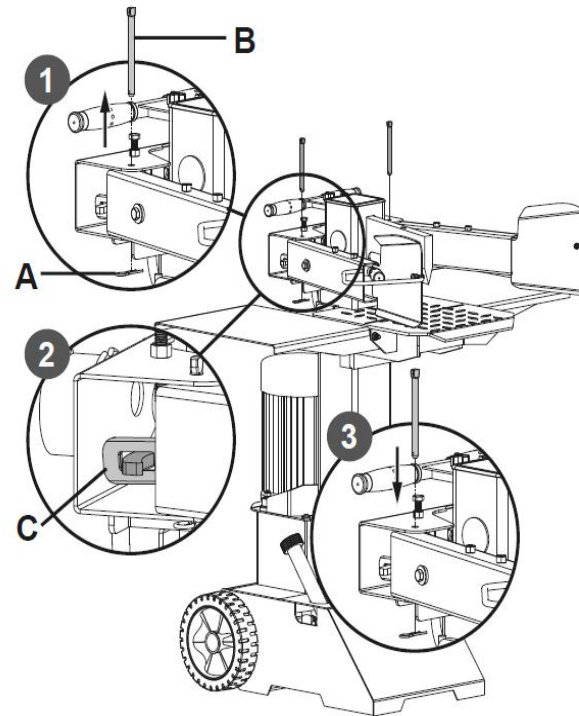

Fig. 10: Mounting the control levers
Step 1: Pull spring pin (Pos. A, Fig. 10) to remove the lock pin (Pos. B, Fig. 10). Apply a thin coat of grease to both surfaces of the control lever guard as illustrated in the figure 10.
Step 2: Insert the control lever and safety guard and make sure the control lever end goes into the slot of connection bracket (Pos. C, Fig. 10).
Step 3: Lock the control lever and safety guard down with the lock pin (Pos. B, Fig. 10) and spring pin (Pos. A, Fig. 10).